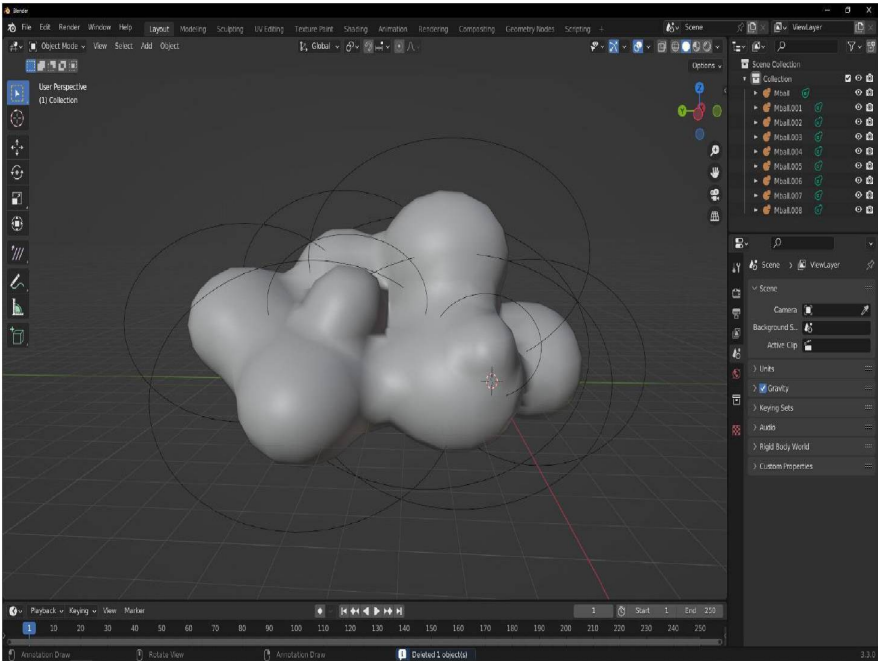

Figure 9.19: Metaballs arranged to resemble a cloud shape
7. We will continue this way, duplicating, moving, and scaling each **Metaball** in one or multiple dimensions until we have created a lumpy blob with a cloud-like appearance as shown in *Figure 9.19*: